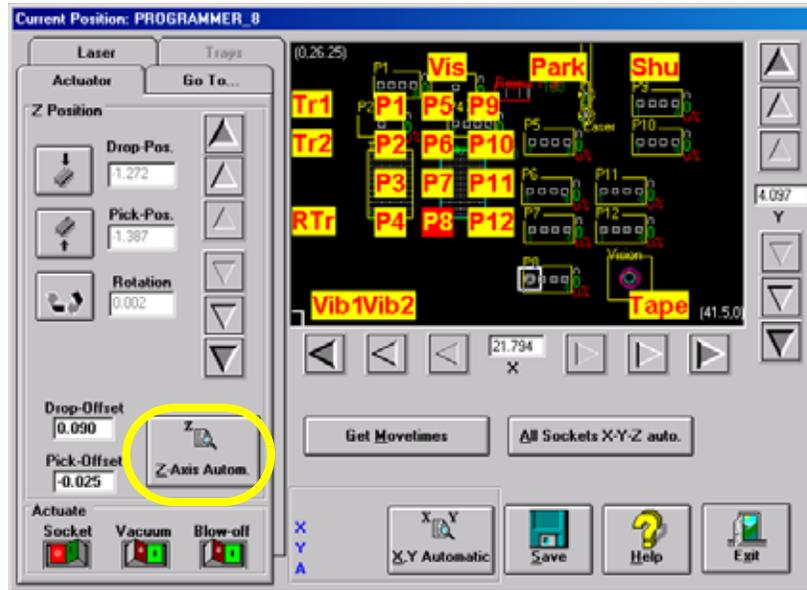

Figure 6-78—Z-Axis autom
- On the Actuator tab, click **Z-Axis Autom**. See *Figure 6-78*. Ensure that the device is picked from the center.